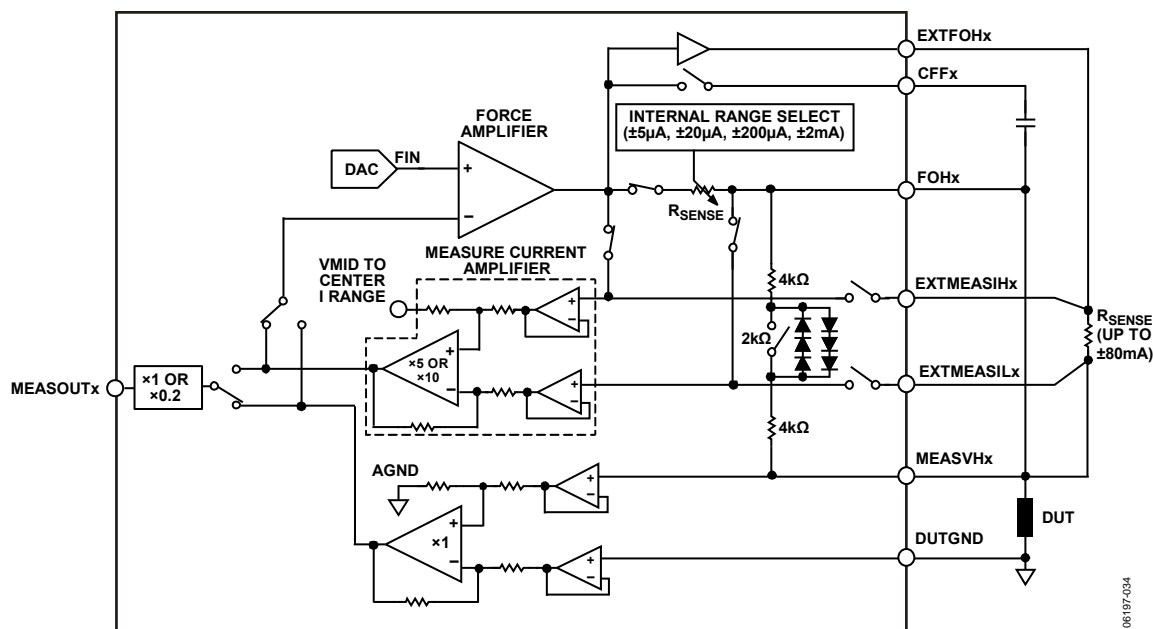

Figure 55. Forcing Current, Measuring Voltage
In force current (FI) mode, the voltage at the FIN DAC is converted to a current and is applied to the DUT. The feedback path is the measure current amplifier, feeding back the voltage measured across the sense resistor. MEASOUTx reflects the voltage measured across the DUT (see Figure 55).